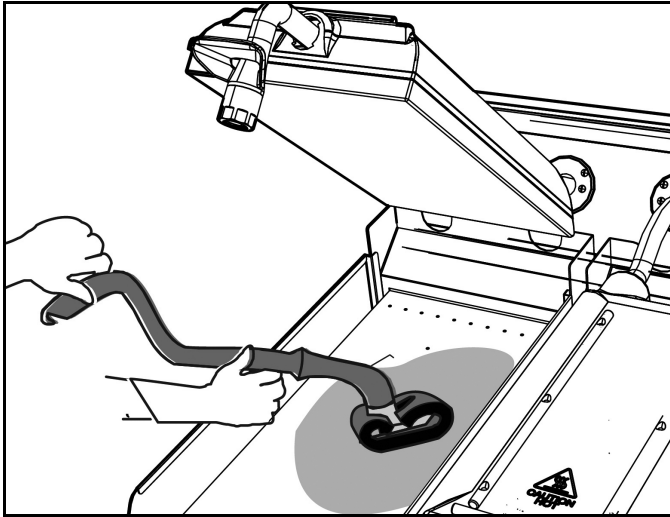

Figure 6-7
6. Allowing the cleaner to set softens any cooked-on grease. Then use the blue handled angle tool to scrub the entire grill surface. See Figure 6-7